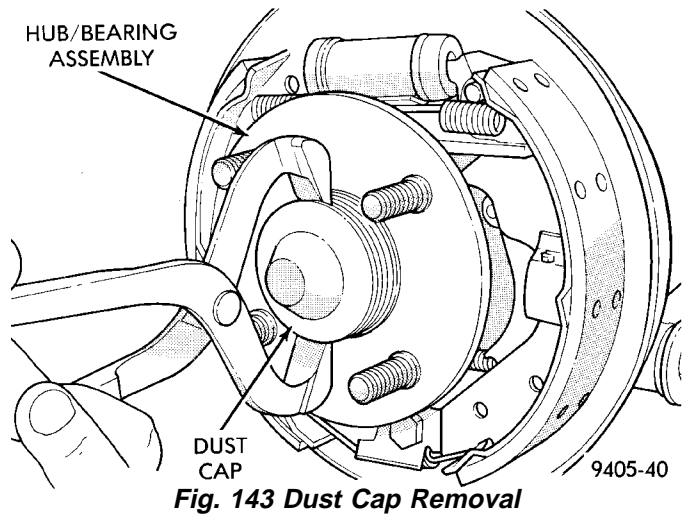

Fig. 143 Dust Cap Removal
(15) Remove the dust cap (Fig. 143) from the rear hub/bearing.